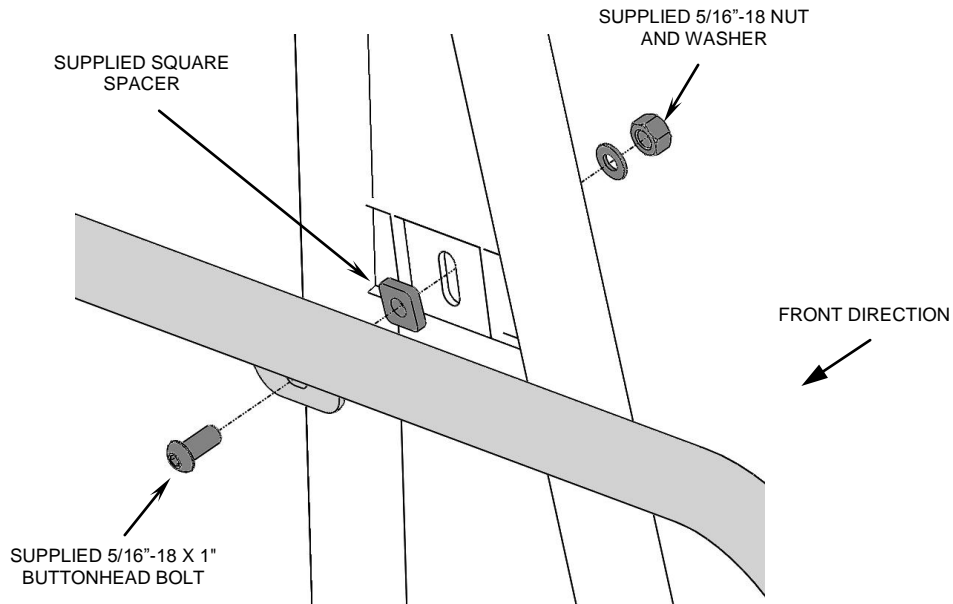

FIGURE 3
4. Align the slotted hole in the frame brace with the freeway bar's upper mount. Insert the supplied 5/16"-18 x 1" buttonhead bolt thru freeway bar's upper mount, square spacer and into the frame brace; secure on the backside with the supplied 5/16" flat washer and 5/16"-18 nylock nut. See Figure 3.